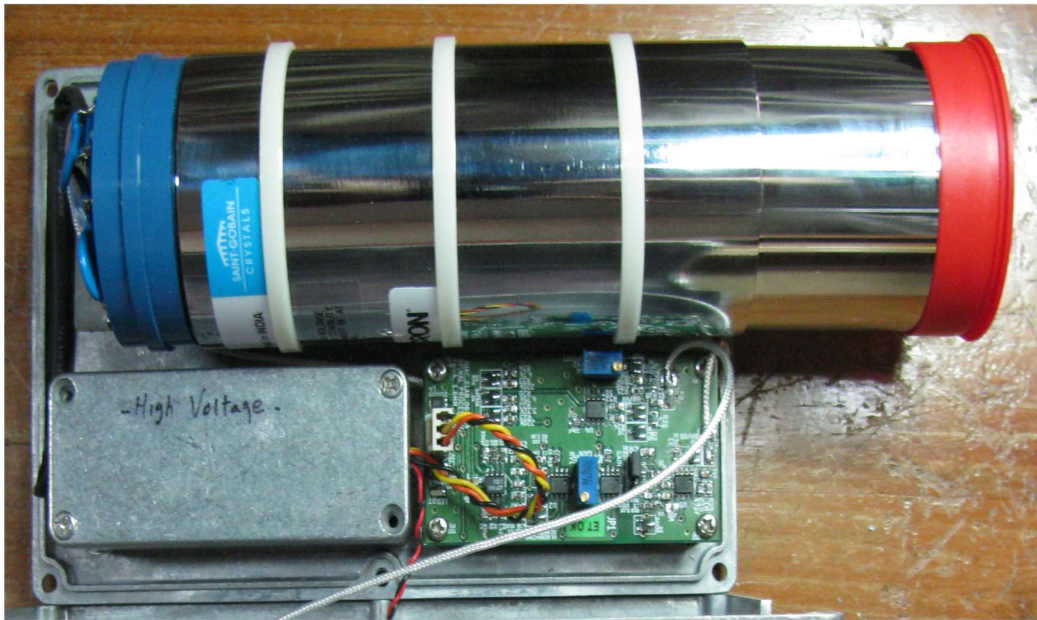

Figure 2: Internal view of the spectroscopy unit
The integrated assembly of Radiation detector assembly contains a NaI (TI) scintillator of size 2"x2" is optically coupled to a 10 stage photomultiplier tube (PMT) and shielded with 'mu' metal as shown in the Figure 2. Such detector is used for converting incident gamma ray radiation energy into proportional electrical pulses of decaying type. This is a commercially available unit from M/s. Saint-Gobain Crystals, Bangalore [1]. Such detectors are commonly used for gamma ray spectroscopy, thyroid measurements and health physics applications. All the required electronics are placed within the die-cast Aluminium box with opening for radiation to enter the scintillation crystal as shown here. The circuits are interlinked with PTFE wires, and double shielded PTFE coaxial cable (2mm).